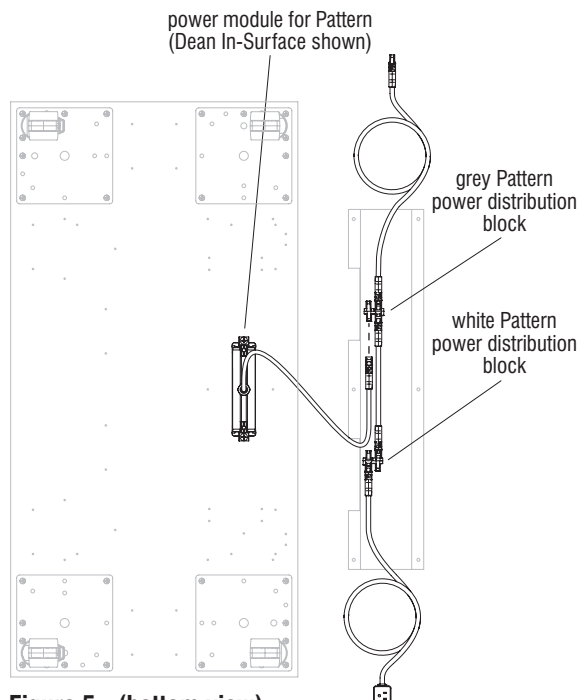

Figure 5 - (bottom view)
1. If the table being assembled contains at least one power module for Pattern, route the connector end of each module toward an available power distribution block on the Pattern electrical system inside the wire trough. Repeat step 1 to route the remaining power modules from the other tables to an available power distribution block (Figure 5 & Details E & F).